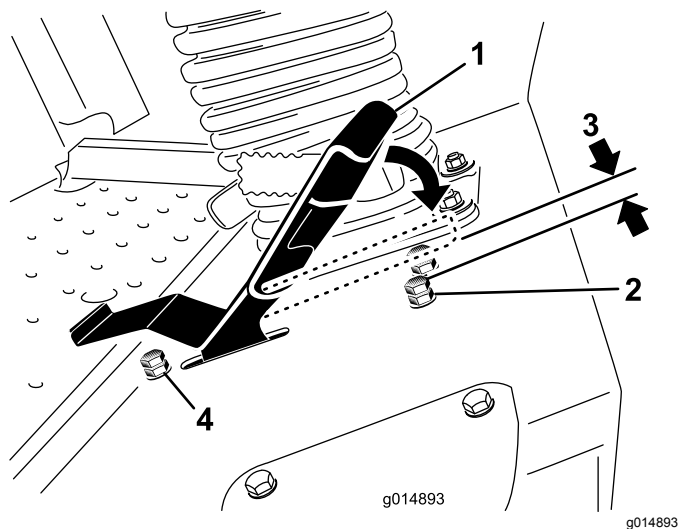

Figure 50
- Loosen the jam nut on the stop bolt for the traction pedal (Figure 50).